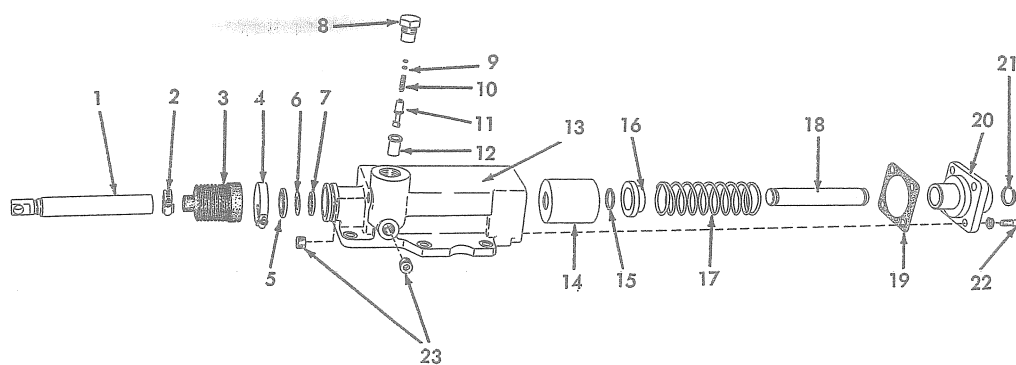

Fig. 29 — Brake Operating Control Valve Details
4. Refer to Fig. 29 and remove the capscrews and lockwashers attaching the actuating rod retainer to the valve housing and remove the actuating rod, rod retainer, spring, and spring retainer as an assembly. Remove the snap ring from the outer end of the actuating rod and remove the actuating rod, spring, and spring retainer from the actuating rod retainer.